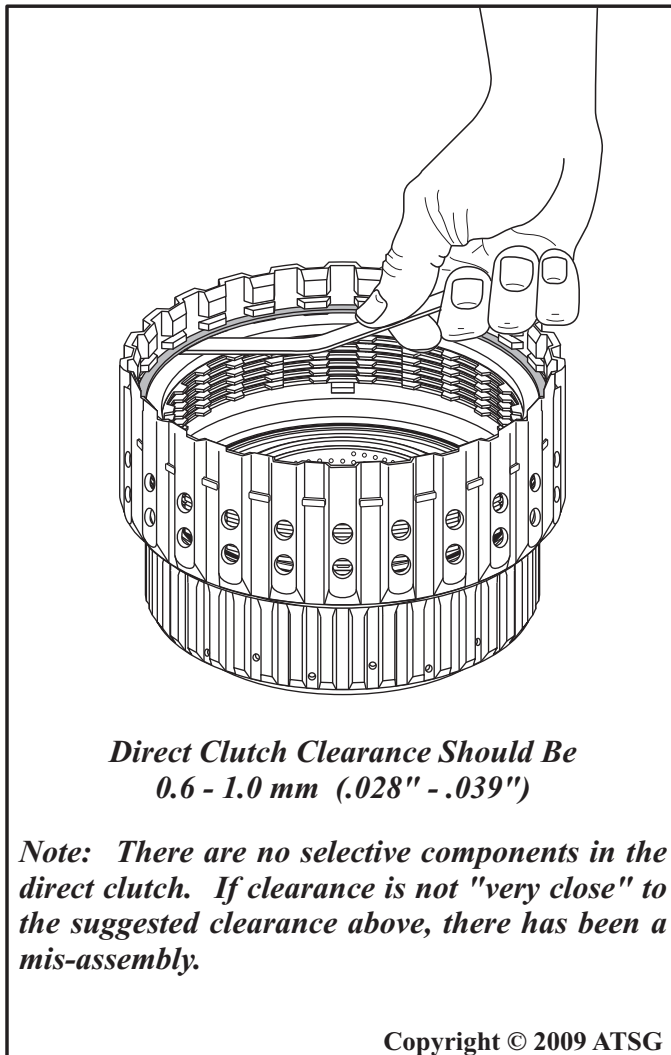

Figure 146
15. Measure the direct clutch clearance using a feeler gage between the backing plate and snap ring, as shown in Figure 146.